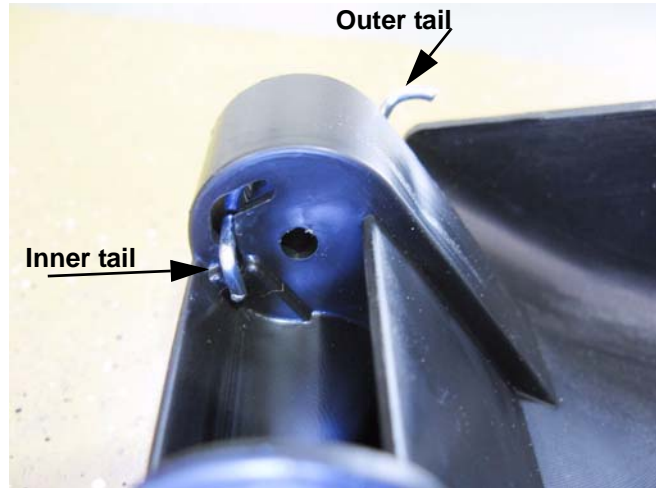

Figure 4.13
- The inner tail of each spring hooks through the L-shaped hole in the grass door. See Figure 4.13.